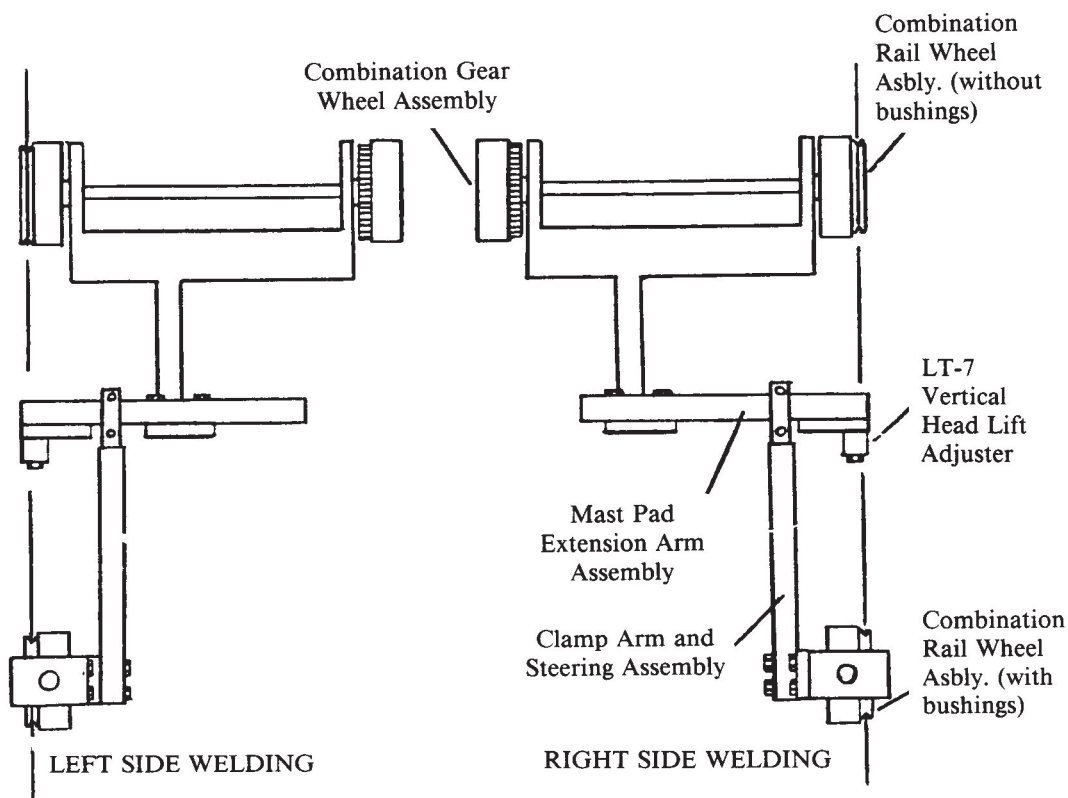

Figure 1
The LT-7 is shipped set up for right side welding as per Figure 1. If left side welding is desired, or for left to right conversion, proceed per the following instructions:
a. Rear Wheel Configuration (refer to Fig. 1)
b. Front Frame Configuration (refer to Fig. 1)